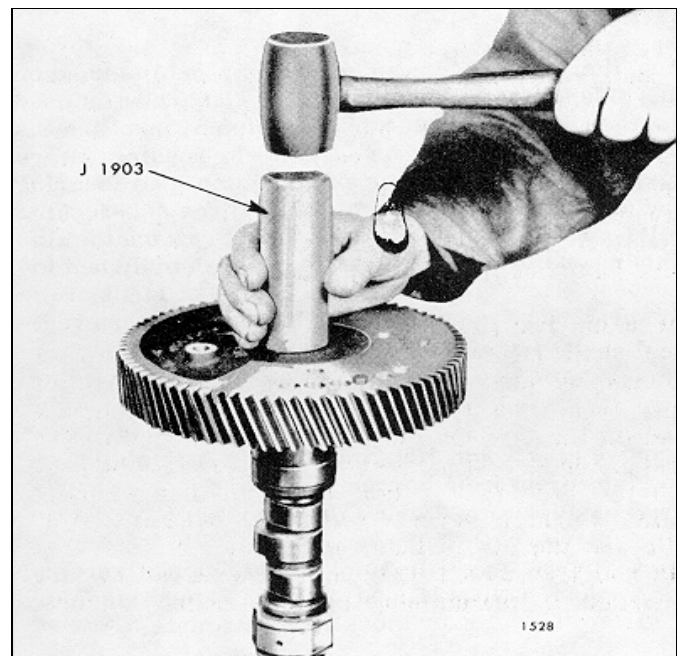

Fig. 3 - Replacing Gear (Camshaft Shown) with Tool J 1903
5. Use gear installer, J 1903, as shown in Fig. 3, to drive the gears on the camshaft and balance shaft tight against the shoulders on the shafts.